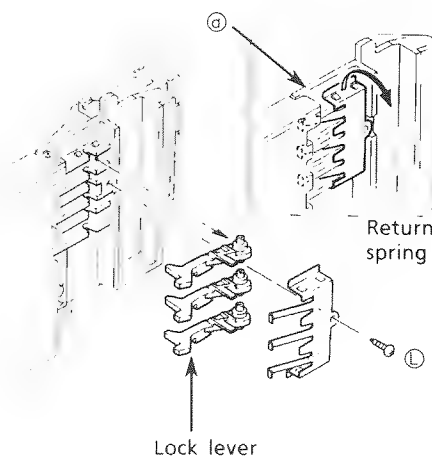
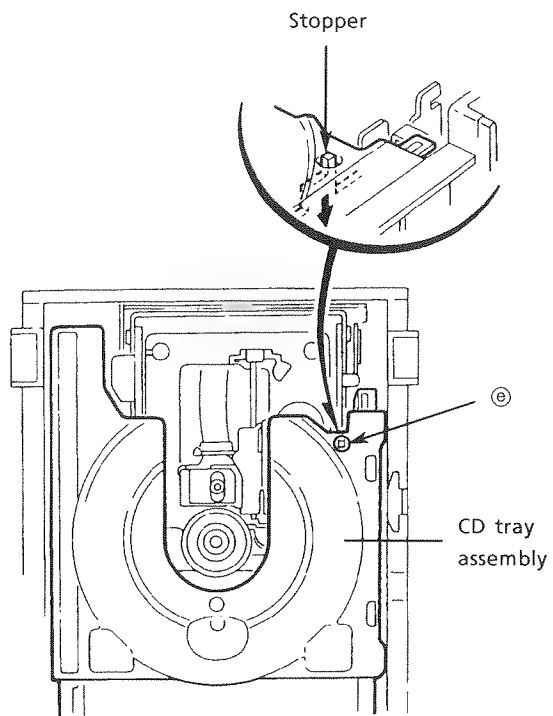

Fig.30
Fig. 31
7. Remove a screw ⑥ which secures the return spring and lock levers from the chassis ass'y.(See Fig. 30.)
8. Remove 2 palls ⑦ which slightly secure the return spring to remove it.
10. Check that the lifter unit stopper is inserted into hole ⑧ located on CD tray ass'y. (See Fig. 31.)